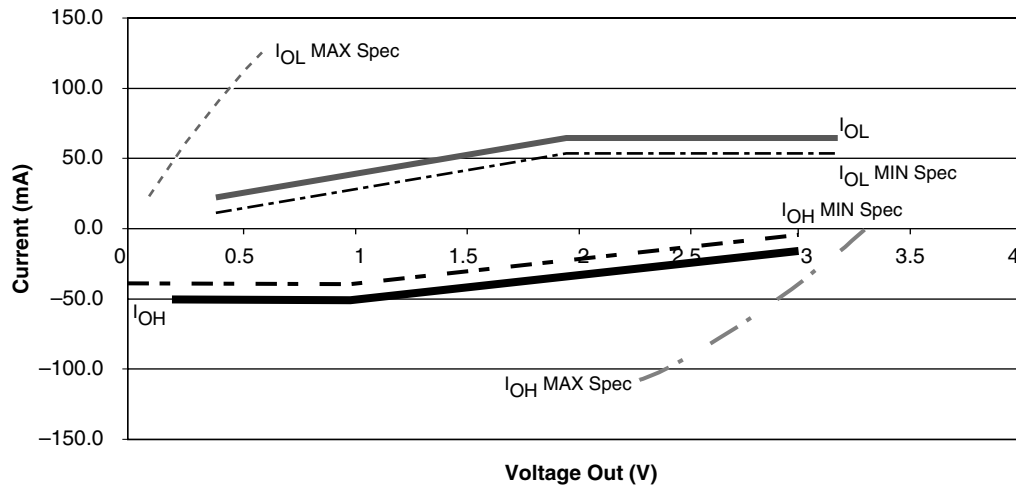

Figure 18 • 3.3V PCI V/I Curve for ProASIC Family
1. Refer to the V/I curves in Figure 18 on page 23. Switching current characteristics for REQ# and GNT# are permitted to be one half of that specified here; i.e., half size output drivers may be used on these signals. This specification does not apply to CLK and RST#, which are system outputs. "Switching Current High" specifications are not relevant to SERR#, INTA#, INTB#, INTC#, and INTD#, which are open drain outputs.
2. Maximum current requirements must be met as drivers pull beyond the last step voltage. Equations defining these maximums (A and B) are provided with the respective diagrams in Figure 18 on page 23. The equation defined maxima should be met by design. In order to facilitate component testing, a maximum current test point is defined for each side of the output driver.
Figure 18 shows the 3.3V PCI V/I curve and the minimum and maximum PCI drive characteristics of the ProASIC family.